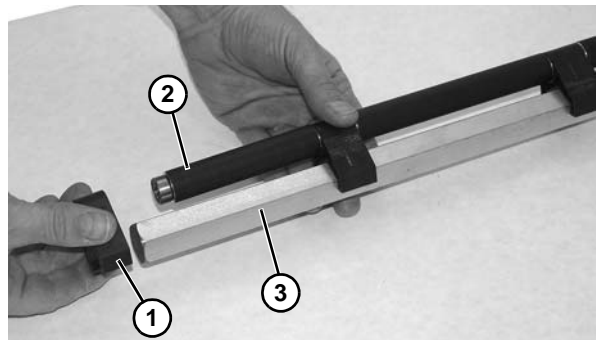

Figure 96
8. Remove spindle retainer (**Figure 96, item 1**), and spindle assembly (**Figure 96, item 2**) from hex shaft (**Figure 96, item 3**).